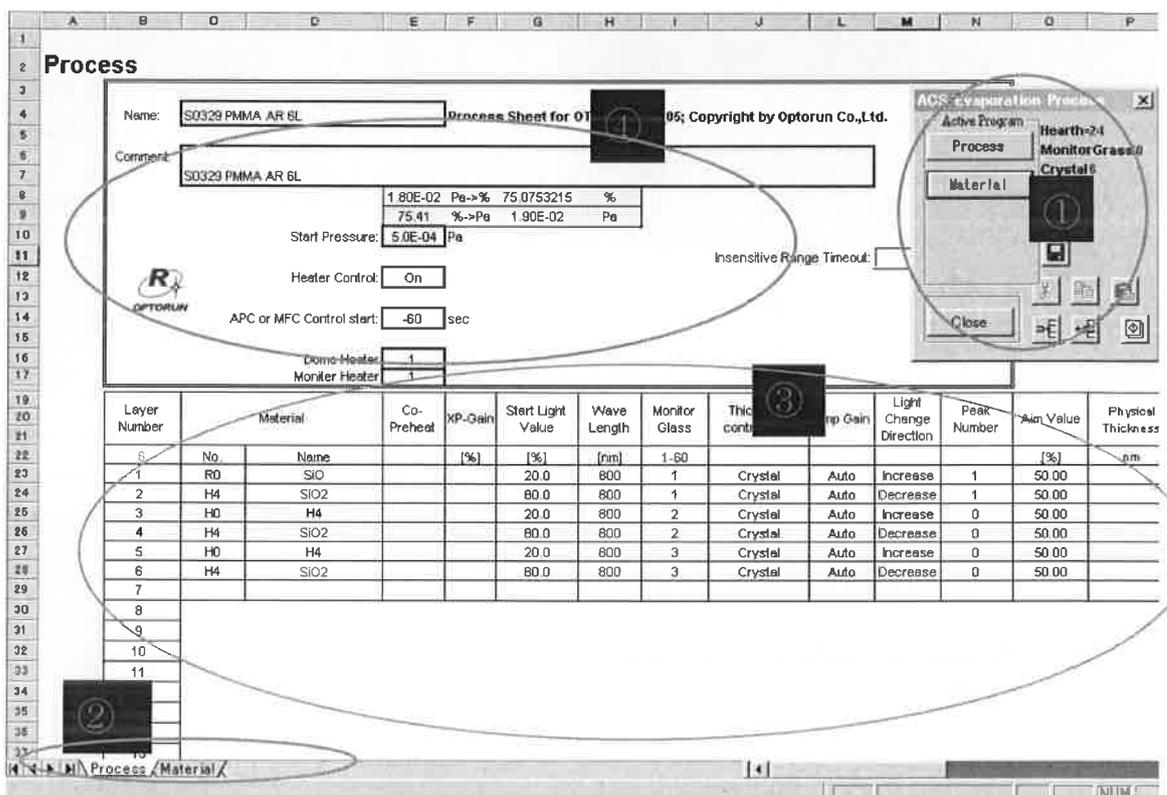

Fig. 17 Evaporation Process File Edition
Edition user interface for Evaporation Process File is shown in the following Fig. 17.
Evaporation Process File must be saved using the  button shown in Fig. 17.
② Sheet Selection
Four sheets are available (② of Fig. 17): Process, Material).
③ Parameters – sheet specific
Referring to parameters corresponding to the specific sheet. In Fig. 17, this part shows process-related parameters.